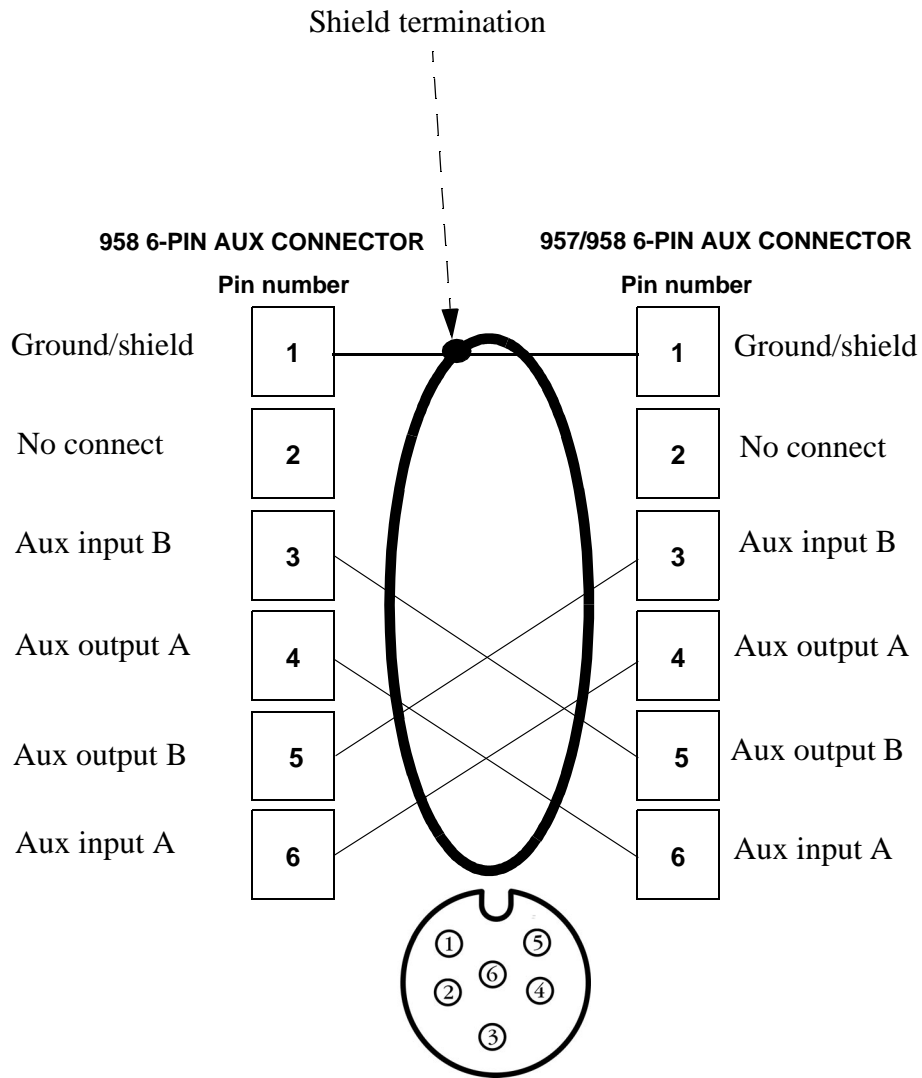

Figure 17: 957/958 aux ports' interface diagram (wiring side view, solder cup)
<p>* Pin 1 on the AUX port requires two connections from the cable.</p> <p>The red wire is not connected on the 958 end, and should be insulated and capped.</p> <p>For the aux port pin configuration, see Figure 17 on page 32.</p>
- For wiring two 958's or a 958 to a 957, see Figure 17 on page 32 and Table 9 on page 32.